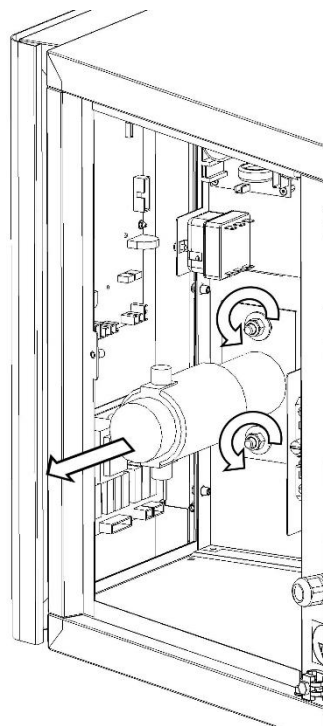

Fig.14B
- 5.Unscrew the bolts that fixing the motor to the support, extract and replace it (Fig.14B).